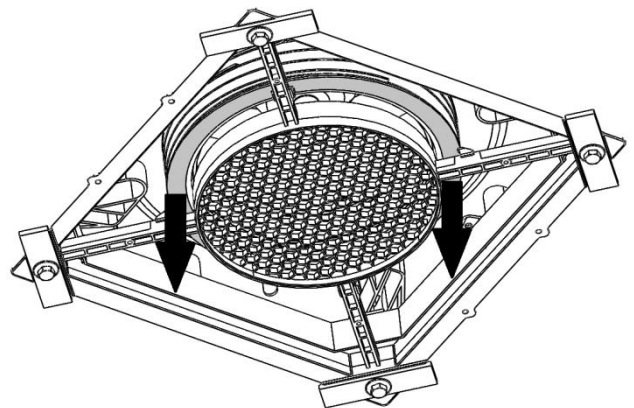

Figure 10 - Engage central duct
- Pull the collar downwards until it engages with the central duct. Figure 10